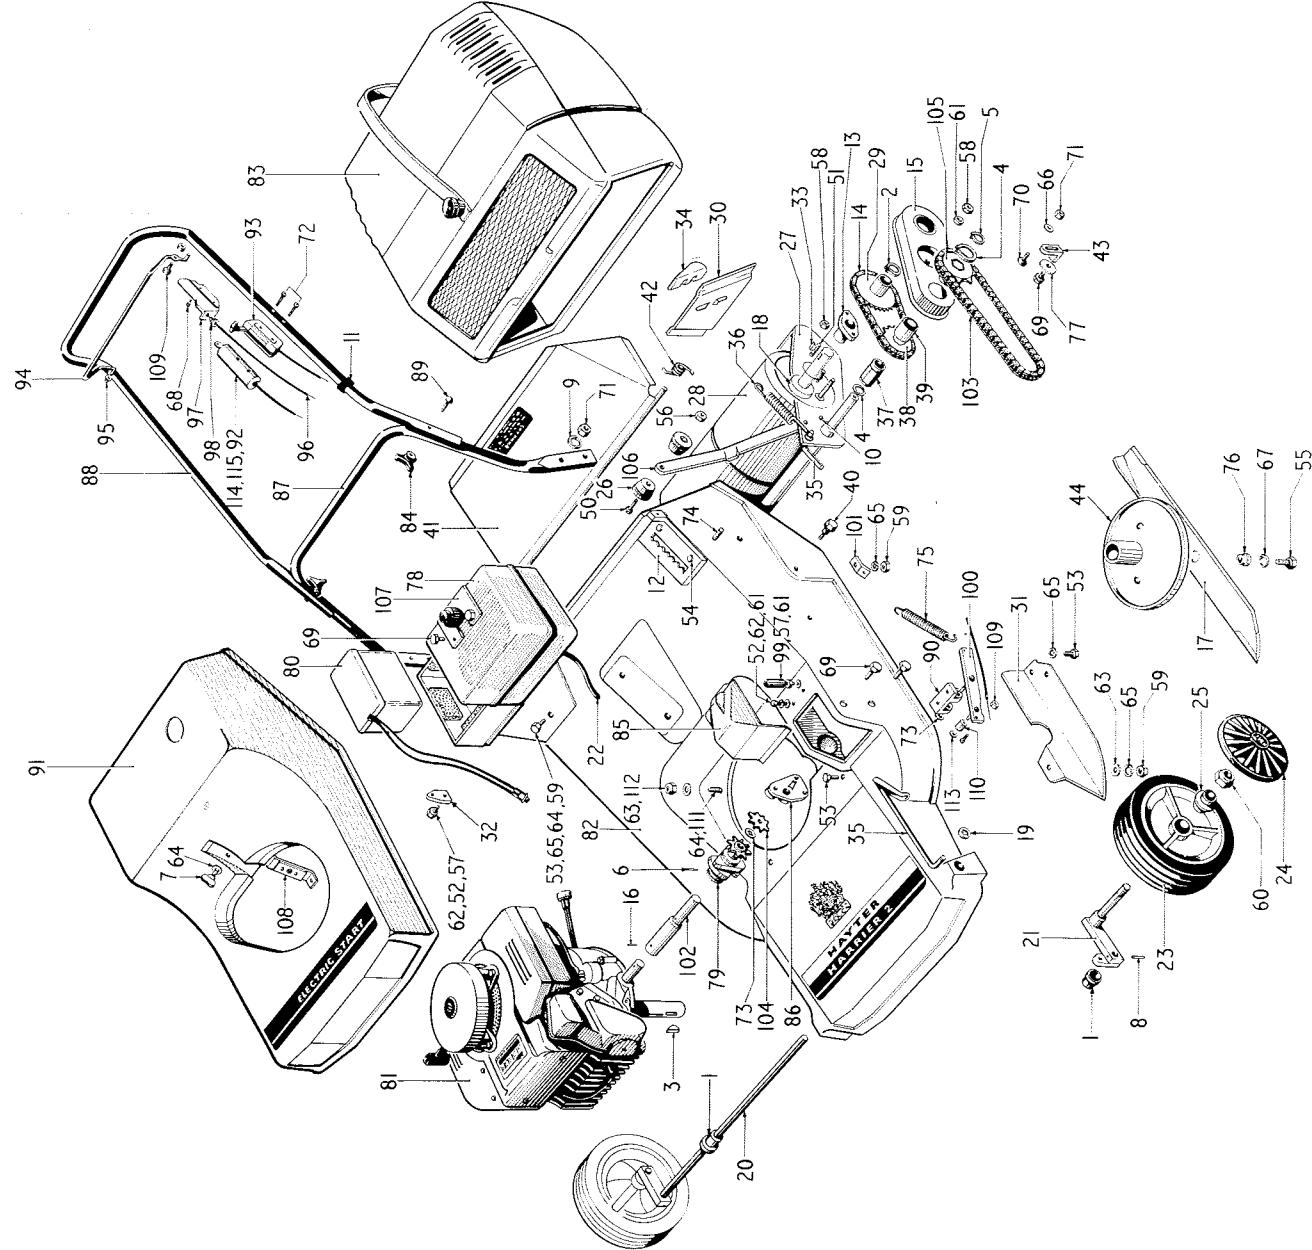

Fig. 4 MAINFRAME ASSEMBLY
**Cutterbar:** The Hayter cutterbar is friction driven by the dished bottom plate when in use. In the event of the cutterbar striking an obstruction the cutterbar is free to move relative to the bottom plate to a new position at which it will continue to cut. Regular inspection of the cutting mechanism is recommended to ensure that the cutterbar is in good condition. Should the cutterbar be damaged to the extent that it is likely to become out of balance it should be replaced immediately, ensuring that the new cutterbar is fitted exactly as shown in Fig. 4 and that the retaining setscrew, Item No. 55 is tightened securely, **a torque setting of 40 ft/lb is recommended.** The cutterbar may be resharpened, ensuring that both cutting edges are evenly sharpened to maintain the balance.